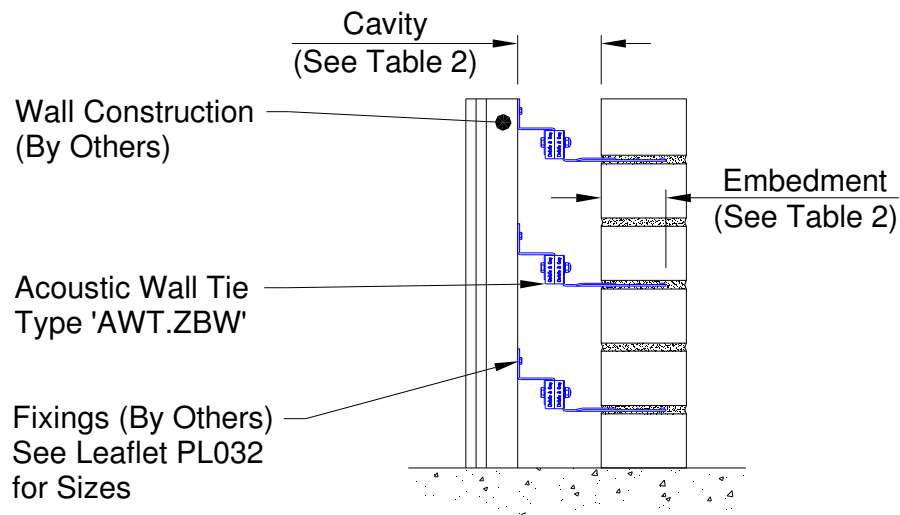

Figure 2
- a) Acoustic wall tie type AWT.ZBW for brick/blockwork to partition walls or existing wall to new brick/blockwork outer wall (See Figure 2 and Table 2).